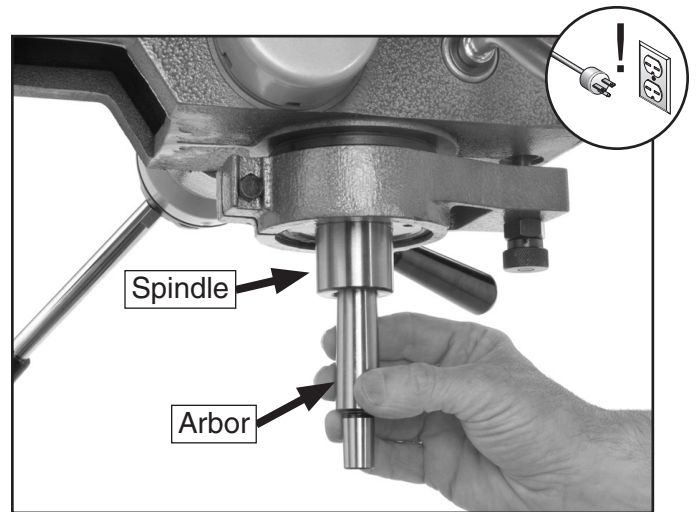

Figure 23. Inserting the arbor into the spindle.
3. Insert the arbor into the spindle as shown in **Figure 23**.